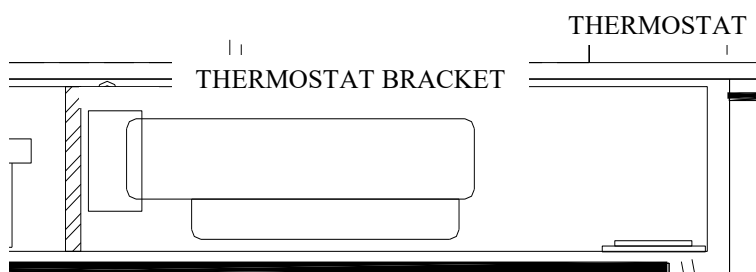

Figure 29
10. To replace the thermostat and to remove wire screen, follow steps 1 through 3. Gently push the thermostat up and out of thermostat bracket and replace with new thermostat. Follow step 8 and 9 to reinstall wire screen. See Figure 29.